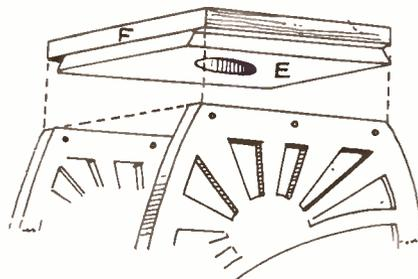

Fig. 5
shown in Fig. 5 are made. Piece (E) will be about  $6\frac{1}{2}$ ins. by 6ins. with two edges only chamfered off as shown to suit the curvature of the front and back panels.